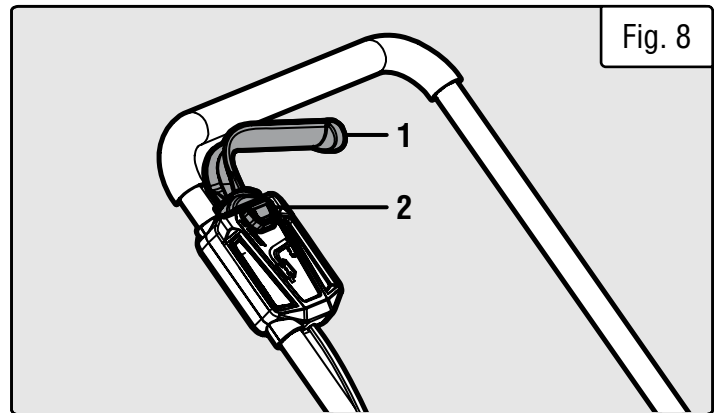

Fig. 8
2. Press and hold the power lock button (Fig. 8 - 1) on the end of the power trigger.
3. While pressing the power lock button, squeeze the power trigger (Fig. 8 - 2) to start the lawn mower. Release the power lock button once the mower starts up.